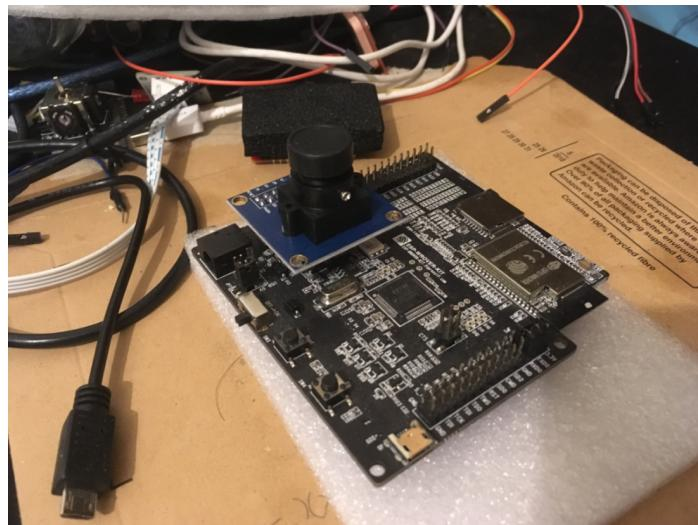

*Figure 8.8*: The Wi-Fi cam project scenario
*Figure 8.8* shows our demo scenario; the ESP32 board will run on a simple web server. When a browser accesses the ESP32 board, our program will send a response with a picture of the current environment: